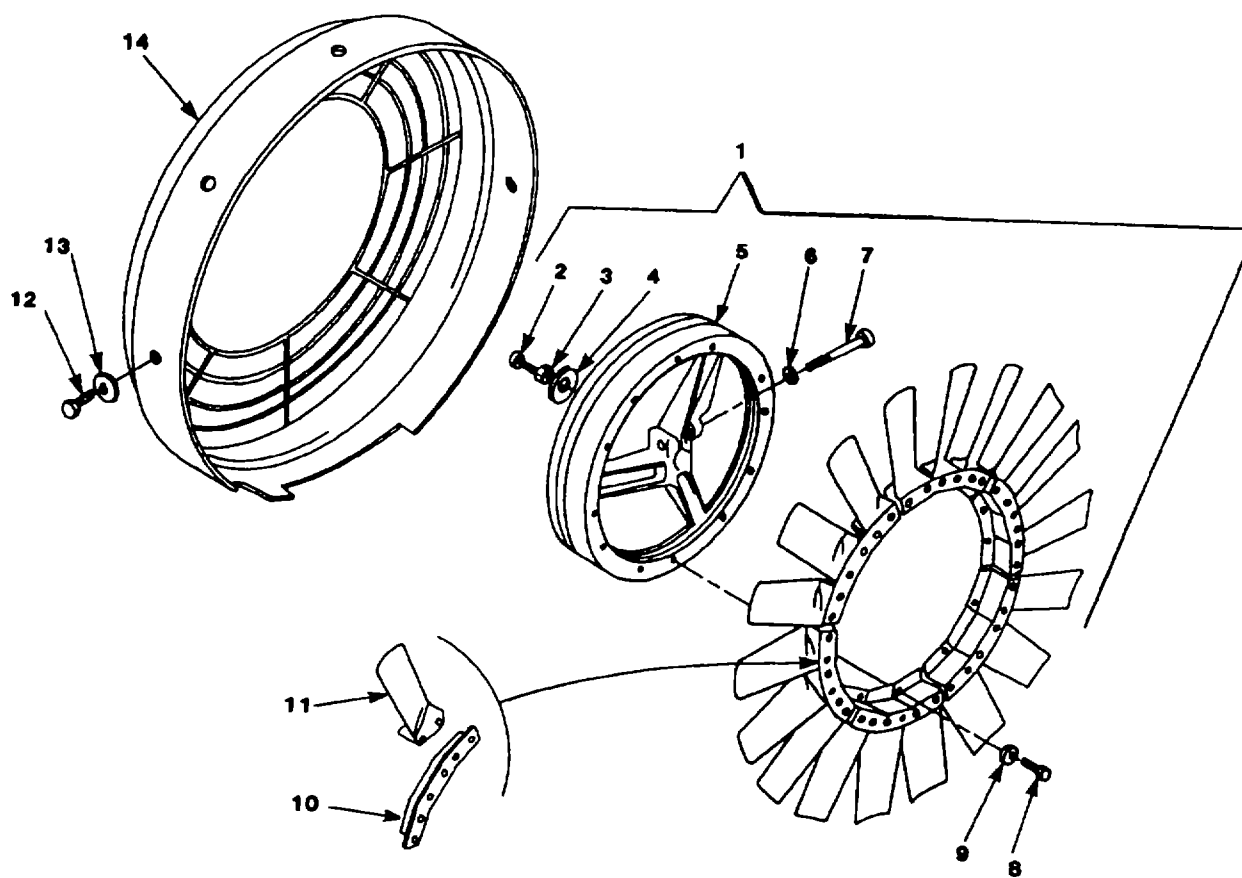

Figure 4-9. Flywheel / cooling Fan
- b. Loosen screws and washers, and remove cooling fan guard (3, figure 4-9).
- c. Remove hex screw (5) and washers (6 and 7). Remove pulley (8).
- e. Replace pulley (8). Replace washers (6 and 7) and hex screws (5).
- f. Replace cooling fan guard (3). Replace washers and tighten screws.